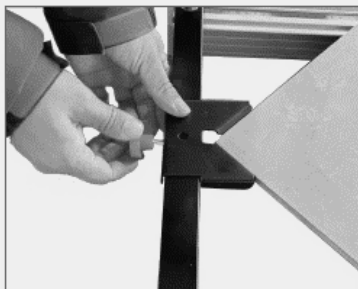
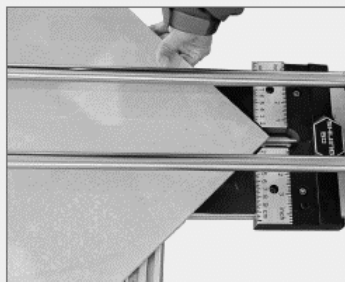

Figure 5
Figure 6
3. Install the diagonal cutting notch on the ruler (as shown in figure 5). The other end of the tile must be aligned and centred (figure 6).